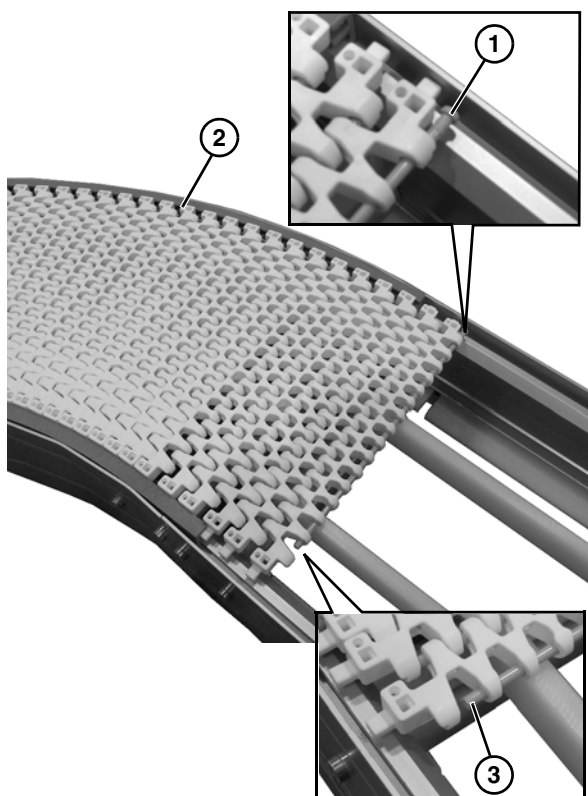

Figure 15
2. Orient the belt direction such that the pin heads (**Figure 15, item 1**) are on the outside of the belt radius (**Figure 15, item 2**). The straight portion on the pin (**Figure 15, item 3**) will be on the inside radius.